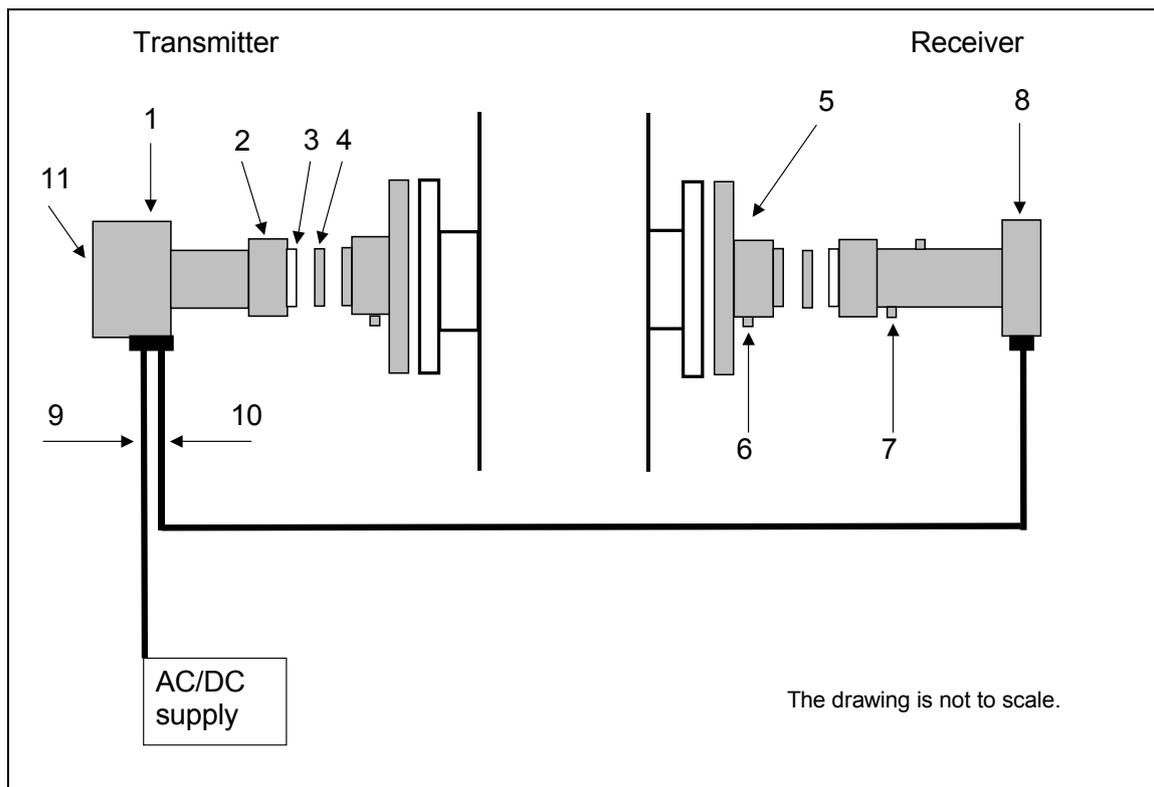

Figure 3-1: AO2000-LS25 units and their main components
Both transmitter and receiver units have environmental protection IP66, and the standard optical windows withstand pressures up to 5 bar (absolute pressure). The monitor is installed by assembling the transmitter and receiver units with the supplied purging & alignment units, which in turn are mounted onto the DN50 process flanges (see Figure 3-1). The optical alignment is easy and reliable, and the purging prevents dust and other contamination from settling on the optical windows.
The installation procedure described in this section refers to Figure 3-1.
2. Remove the adapter ring (no. 4 in Figure 3-1) from the transmitter alignment & purging unit.
1. Remove the adapter ring (no.4 in Figure 3-1) from the receiver alignment & purging unit.